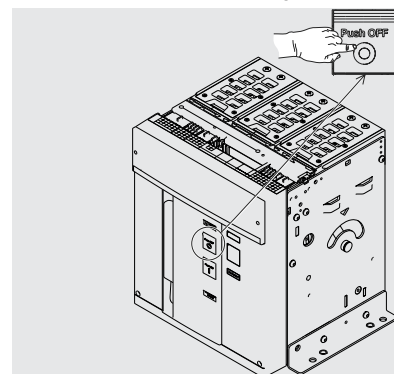

Figure 79
6. Opening - Press the opening pushbutton "O - Push OFF" as indicated in Figure 79.